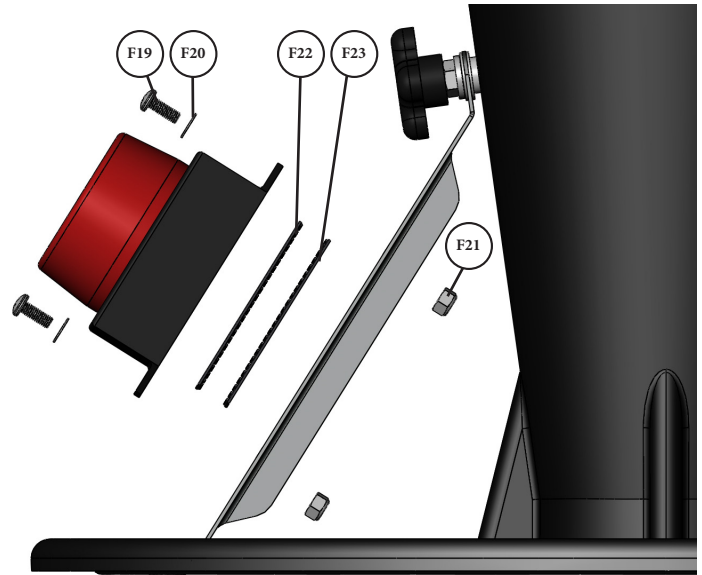

FIG. 16
Mount the Dust Sentry strobe light (M) centered between the two holes of the Strut (F7) using the hook and loop tape (F22 and F23). Secure onto the Strut (F7) through the two holes with a Phillips Drive Pan Head Screw (F19), Washer (F20), and Nylock Nut (F21). Plug in the Dust Sentry (M) to the connecting adapter found on the Motor Assembly (A) [FIG. 16].
*Note: You may mount the Dust Sentry (M) in an alternate location that works best for your setup.*